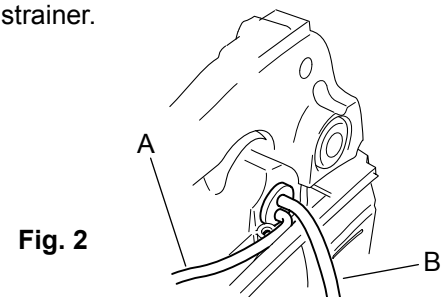

Fig. 2
NOTE: Be certain grommet is inserted on unit with fuel return line (B) positioned above fuel line (A) as shown in **Fig. 2** below.